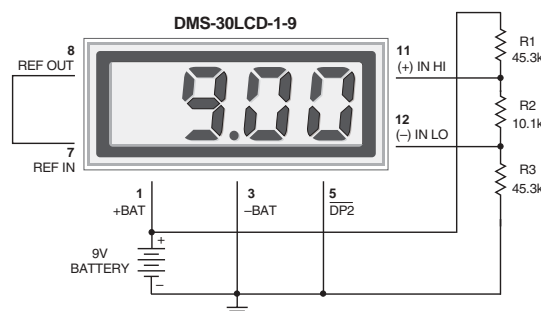

Figure 8. Power Supply Monitor (9V-Powered Models)
6. **Power Supply Monitoring:** A popular application for DATEL's low-power LCD meters is monitoring the supply voltage in battery-operated portable equipment. Figure 8 demonstrates how a 9V-powered DMS-30LCD can be used to monitor its own supply. The meter used is the DMS-30LCD-1-9. A three-resistor voltage divider is used to attenuate the battery voltage and also to satisfy the requirement that the input voltages applied to pins 12 and 11 be at least 1.5 Volts above and below the battery voltage applied to pins 1 (+BATTERY) and 3 (-BATTERY). The divider should be designed so that 1/10th the battery voltage falls across the inputs to the meter: